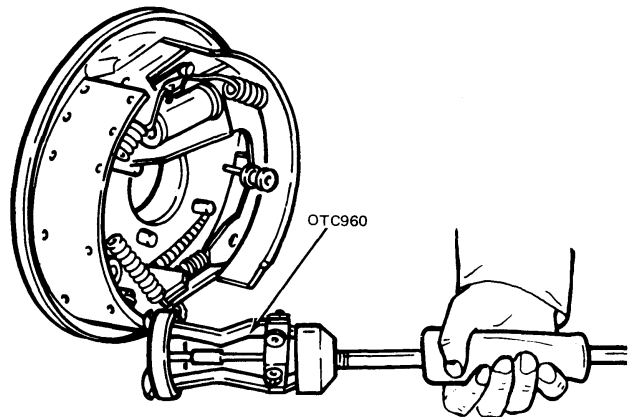

FIG. 12 Removing Tapered Bearing Cup
4. Pull the axle shaft assembly out of the axle housing (Fig. 5). Remove the axle shaft carefully so as not to damage the outer seal rubber. The bearing cup will normally stay in the axle housing when the axle shaft is removed. The bearing cup must be removed from the axle housing. Use a standard slide-hammer-type puller as shown in Fig. 12. Remove the brake backing plate and wire it to the frame rail.